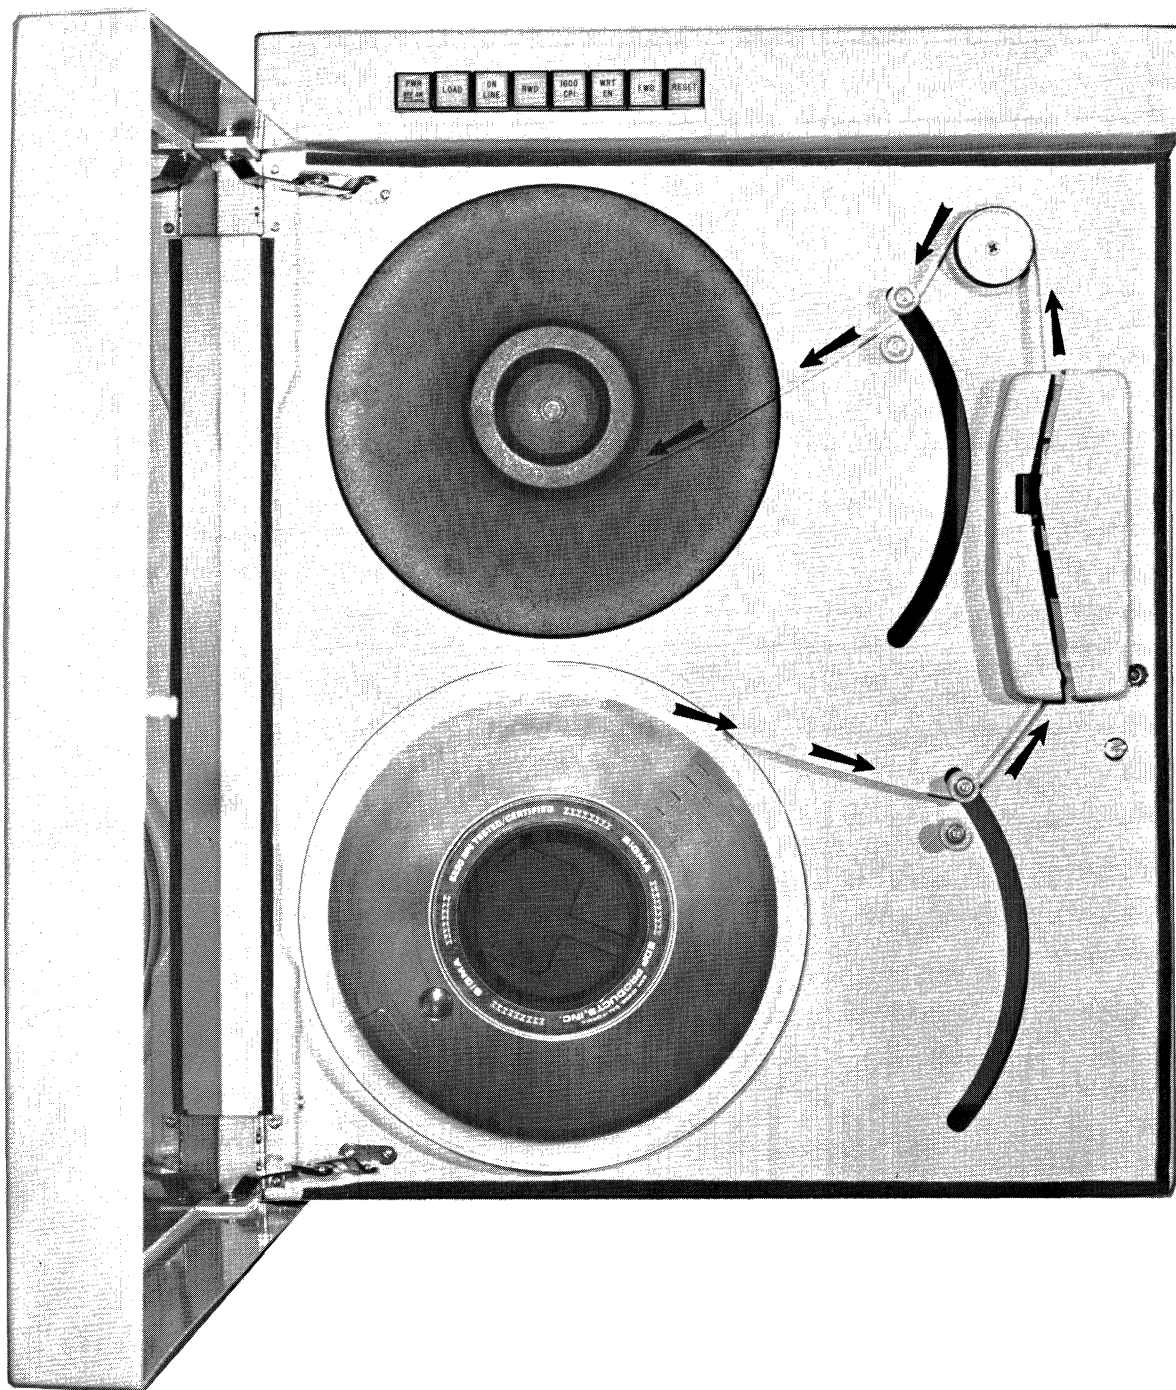

FIGURE 3-2. MAGNETIC TAPE PATH DURING THREADING
When loading tape on the TDI 1051, the supply reel is mounted on the bottom hub, and the upper hub serves as the take-up reel. The maximum supply reel size is 10.5 inches in diameter. Recording can be accomplished only when the write-enable ring is installed in the supply reel. Figure 3-2 illustrates the required tape path.
- c. Thread the magnetic tape over the path shown in Figure 3-2. It will be necessary to push the flux gate to the left when routing the tape through the head assembly.